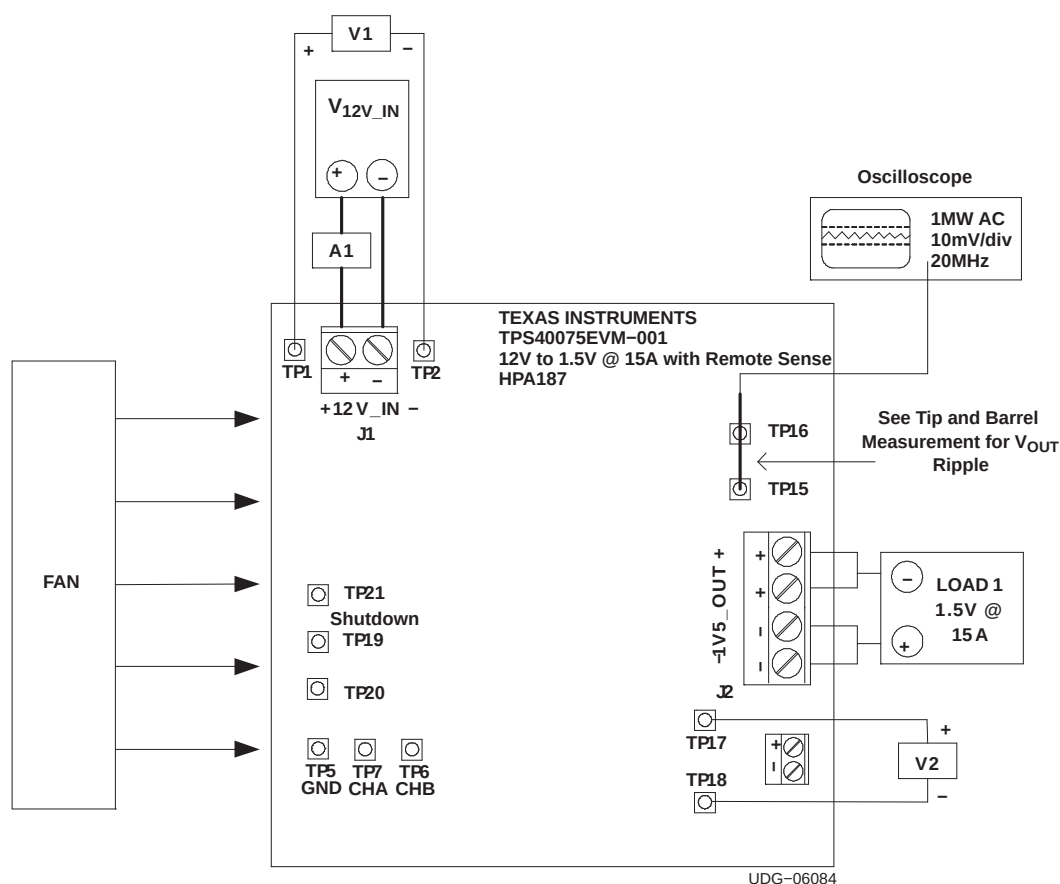
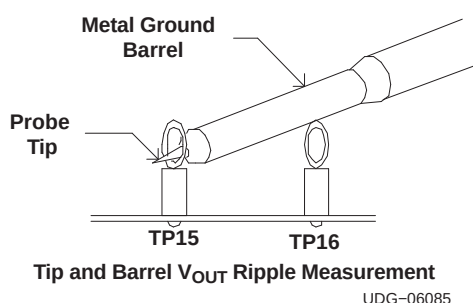

Figure 2. TPS40075EVM-001 Recommended Test Set-Up
Figure 3. Output Ripple Measurement – Tip and Barrel using TP15 and TP16
The input voltage source (V_{12V_IN}) should be a variable DC source between 0 V and 15 V, and capable of 5 A_{DC}. Connect V_{12V_IN} to J1 as shown in Figure 3.
A 60 MHz or faster oscilloscope can be used to determine the ripple voltage on 1V5_OUT. The oscilloscope should be set for 1 M Ω impedance, AC coupling, 1 μ s/division horizontal resolution, 20 mV/division vertical resolution for taking output ripple measurements. TP15 and TP16 can be used to measure the output ripple voltage by placing the oscilloscope probe tip through TP15 and holding the ground barrel to TP16 as shown in Figure 3. For a hands free approach, the loop in TP16 can be cut and opened to cradle the probe barrel. Using a leaded ground connection may induce additional noise due to the large ground loop area.
Shown in Figure 3 is the basic test set up recommended to evaluate the TPS40075EVM-001. Note that although the return for J1 and J2 are the same, the connections should remain separate as shown in Figure 2.
2. Prior to connecting the DC input source, V_{12V_IN} , it is advisable to limit the source current from V_{12V_IN} to 5.0A maximum. Make sure V_{12V_IN} is initially set to 0V and connected as shown in Figure 2.
3. Connect the ammeter A1 (0–5A range) between V_{12V_IN} and J1as shown in Figure 2.
4. Connect voltmeter V1 to TP1 and TP2 as shown in Figure 2.
6. Connect voltmeter, V2 across TP17 and TP18 as shown in Figure 2.
7. Connect Oscilloscope probe to TP16 and TP15 as shown in Figure 3.
8. Place Fan as shown in Figure 2. and turn on, making sure air is flowing across the EVM.
Table 3 lists the EVM components as configured according to the schematic shown in Figure 1 and Figure 2.